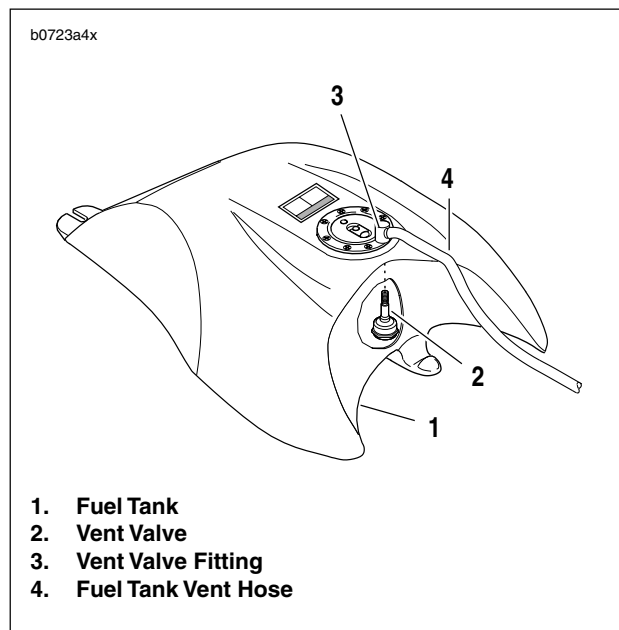

Figure 4-37. Vent Valve
1. See Figure 4-37. Remove cable strap from fuel tank vent hose (4). Disconnect hose from vent valve fitting (3).